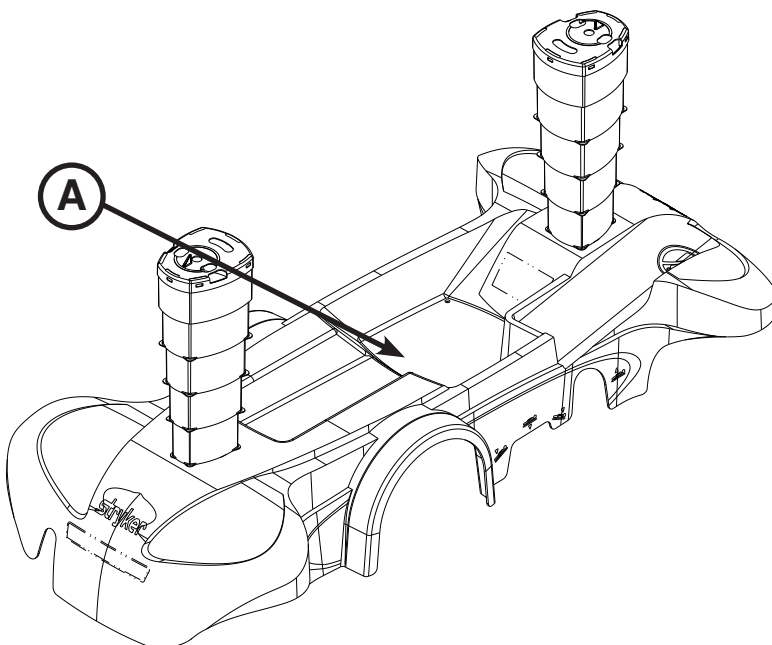

Figure 28: Base Hood Storage
You can store items in the base hood (A) as shown in Figure 28.